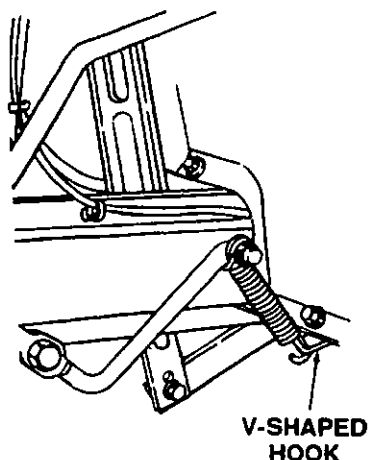

Figure 25
21. Remove lower end of each lift assist spring from the V-shaped hooks located at lower front of each rear fender. (Refer to Figure 25.)